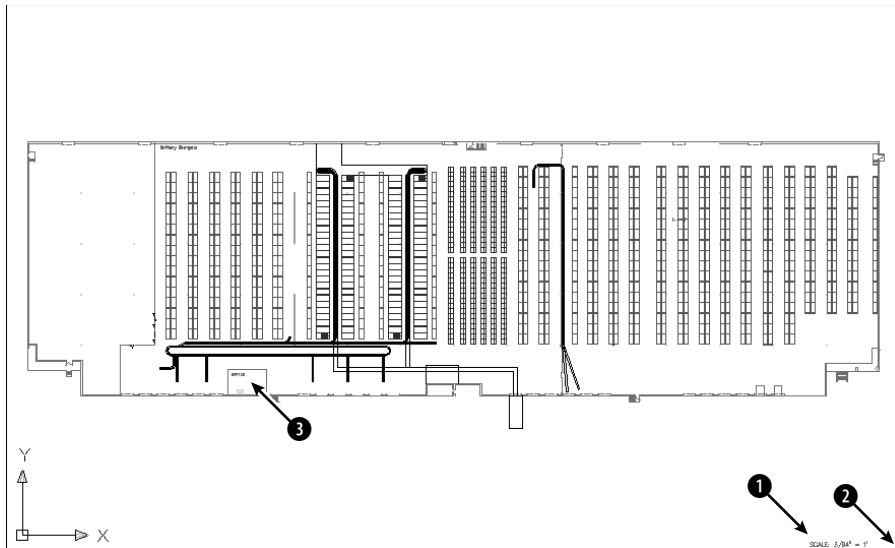

Figure 8-4: A drawing of a large warehouse, with shelving and conveyor belts.
1. Open `ab08-b.dwg` from the CD-ROM. This is a drawing of a warehouse, as shown in Figure 8-4.
3. At the Specify first corner: prompt, pick ❶, as shown in Figure 8-4. At the Specify opposite corner: prompt, pick ❷. AutoCAD or AutoCAD LT zooms in to display the window that you specified, as shown in Figure 8-5.
7.  Choose Zoom Center from the Zoom flyout. At the Specify center point: prompt, pick ❸ in Figure 8-4. At the Enter magnification or height <5315.176>: prompt, type `500 ↵`. You zoom in on the office.